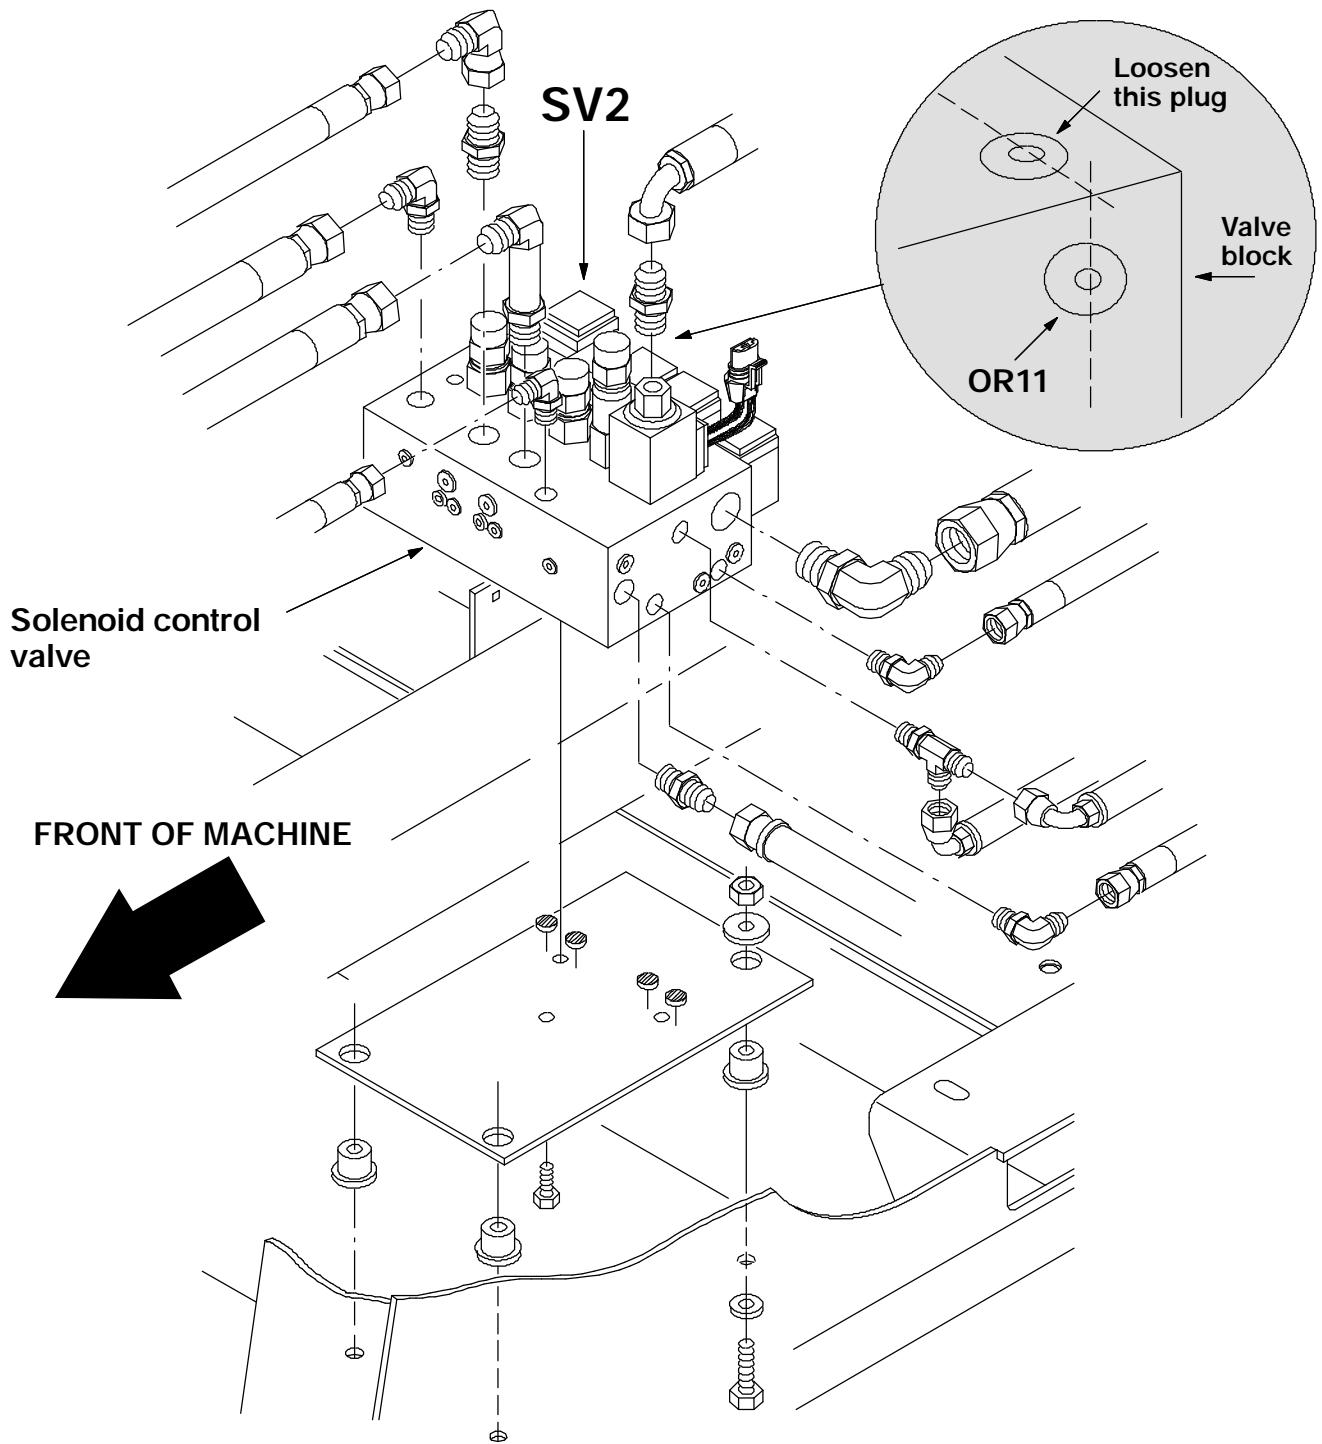

FIG. 2 - Solenoid Control Valve
6. Locate the hydraulic solenoid valve under the solution tank on the left hand side of the machine frame on top. (Refer to FIG.2)
NOTE: Make sure to clean the face of the hydraulic solenoid valve that is facing the rear of the machine. (Refer to FIG.2)
7. Locate the solenoid valve marked SV2. (Refer to FIG.2)
9. Locate the plug marked OR11 above the SV2 solenoid stem. **Also locate and loosen the O-ring plug located directly above and in-line with OR11 (may interfere with removal of orifice).** Remove the OR11 plug using a 3/16 inch Allen wrench. (Refer to FIG.2)
11. Install the new orifice (1) in the same location as the old one was removed. Bottom out the new orifice and tighten tight.
13. Reinstall the coil and rubber washers. (Refer to FIG.2)
14. Reinstall the nut on top of the coil. DO NOT over tighten--snug only. (Refer to FIG.2)